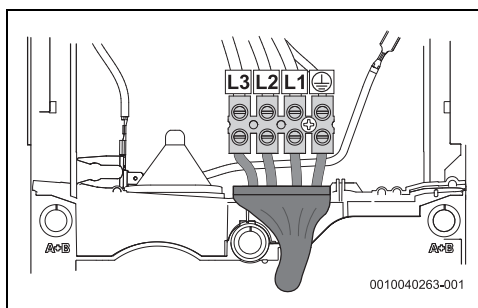

Fig. 42 Lower connection for short cables
- Lower connection for short cables (Fig. 42)